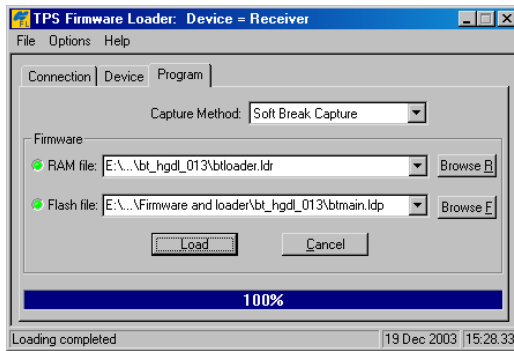

Figure 4-20. Bluetooth Firmware Load Complete
4. Click **Load** and wait until 100% of the files load into your receiver (Figure 4-20).